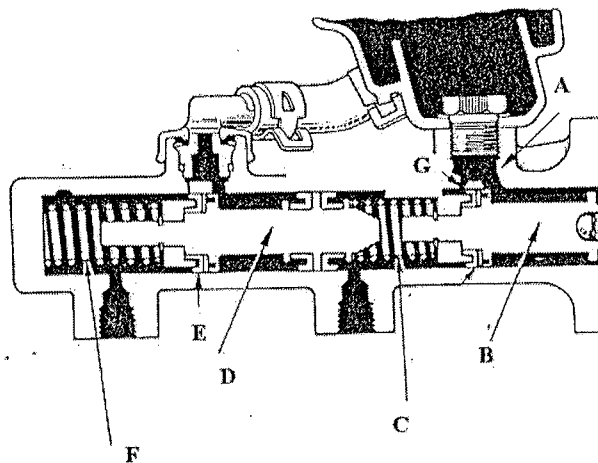

Figure Q5: A Cross Section of a Tandem Brake Master Cylinder
- I. Figure Q5 illustrates a cross section of a tandem brake master cylinder used in a passenger car
- II. With regard to Figure Q5, describe the operation of the tandem brake cylinder for the following instances.